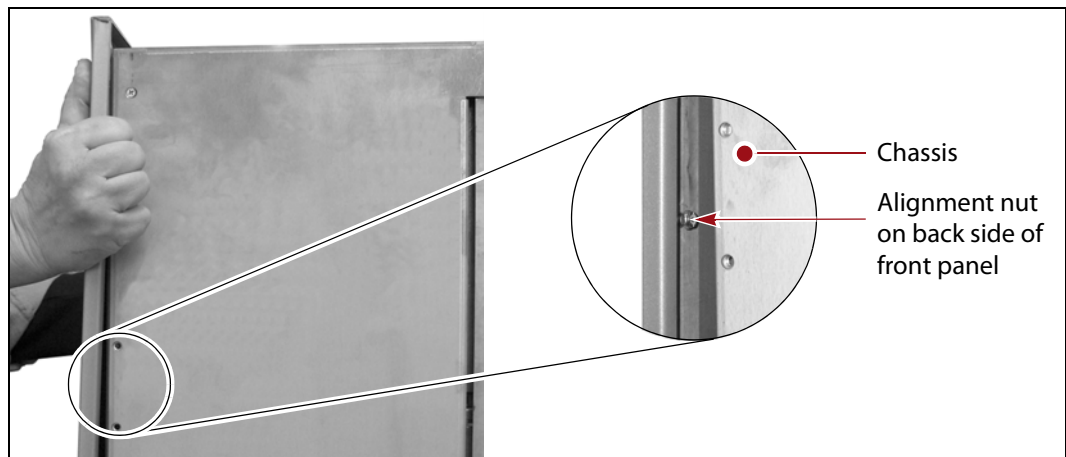

Figure 242 Removing the front panel.
- c. Fit alignment pin on the top edge of the panel and the two nuts extending from the back of the front panel into the corresponding holes on the edges of the chassis (see Figure 242 on page 395).